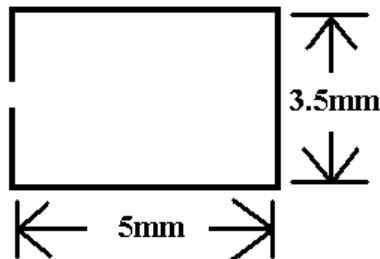

Figure 3
10. Bend a piece of phosphor bronze wire as shown in Figure 3; the dimensions are measured inside the loop. Use tapered pliers, marked at the appropriate distances to ensure each loop is the same, or use the *LBJAD* loop bending jig.